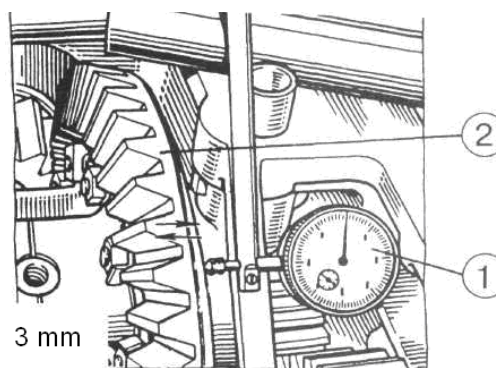

Figure 4.123
- a) bring indicator 1 (Figure 4.123) to driven gear crown 2 and moving differential body in axial direction with effort of 500...600 N (50...60 kgf) using mounting blade, gauge differential axial play;